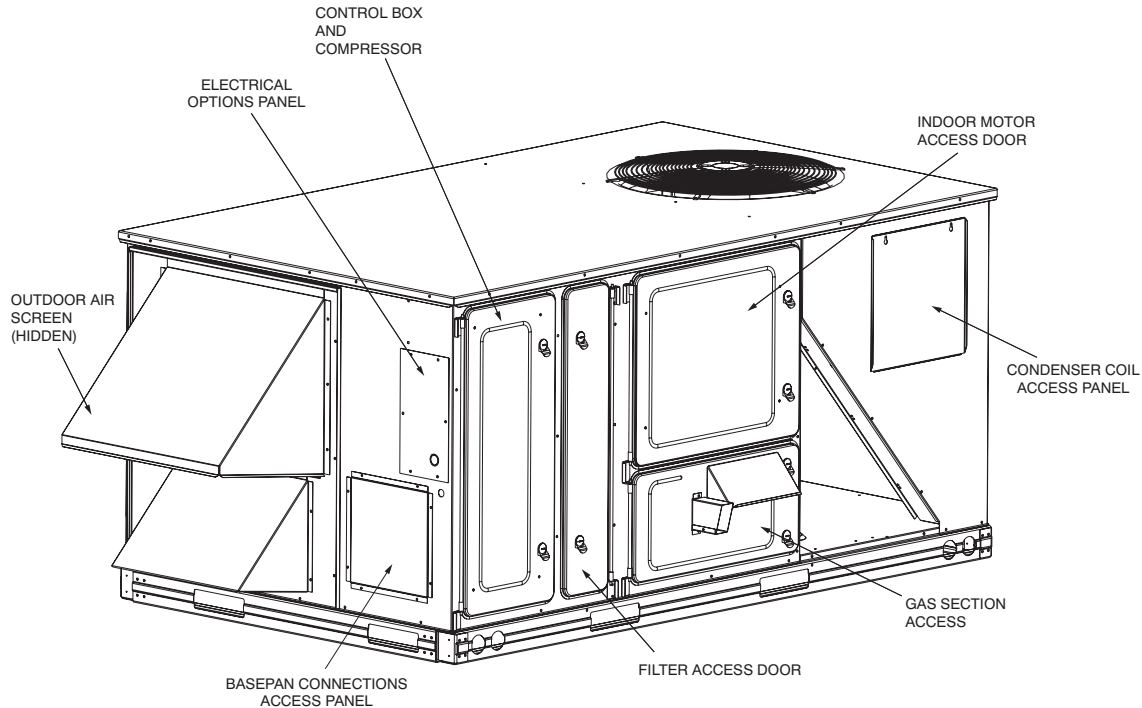

Fig. 1 - Panel and Filter Locations (48PG03-07 Unit Shown)
2. Open gas section access door. (See Fig. 1.)